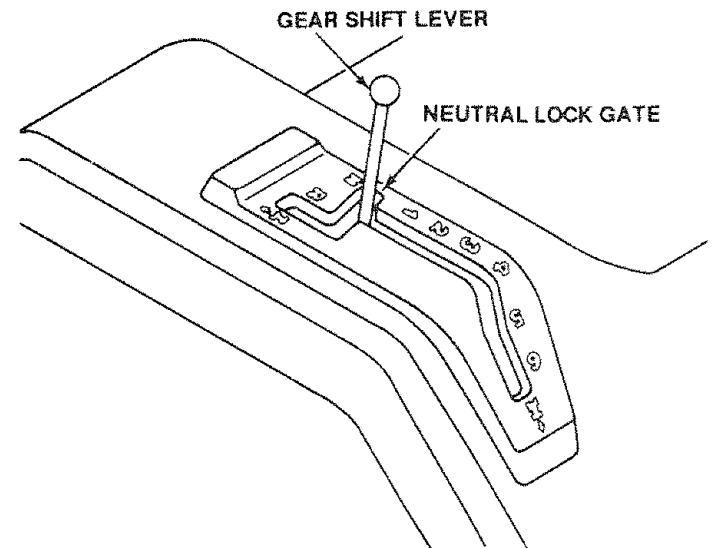
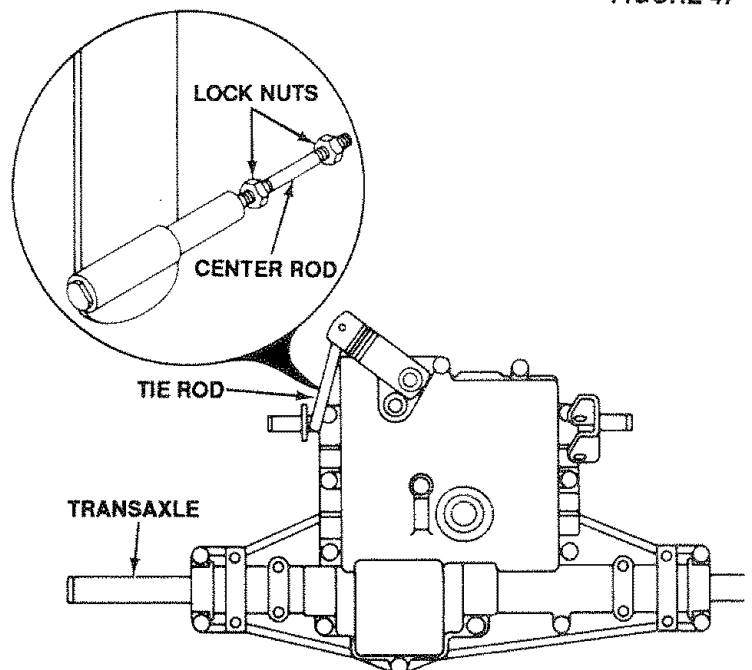

FIGURE 47
FIGURE 48
The transaxle should be in neutral when the gear shift lever is in the neutral (lock gate) position (Fig. 47). The adjustment is preset at the factory; however, if adjustment is needed, proceed as follows:
- Using a 7/16" wrench, loosen two (2) locknuts on tie rod (Fig. 48 - inset).
- Turn center rod (Fig. 48 - inset) until gearshift lever falls into neutral lock gate on fender console (Fig. 47).